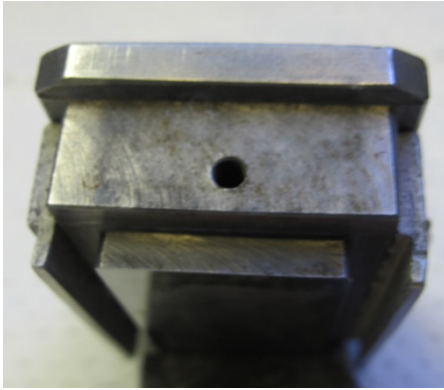

Figure 5
- a. Length wise: one side should have one groove facing out and one in (Fig. 5).